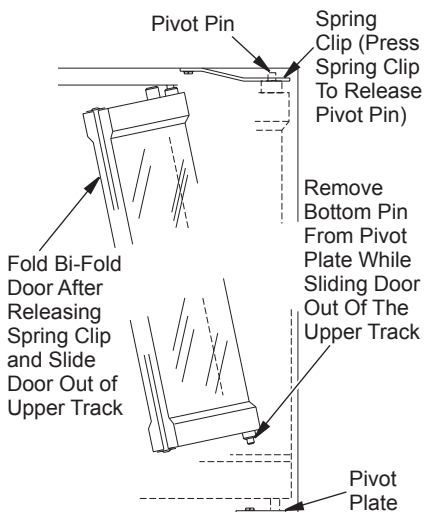

Figure 1 - Removing Glass Doors
1. Remove both glass door panels (when equipped) by following the instructions shown in Figure 1.
16. Replace the glass doors (if equipped) by following the instructions shown in Figure 1, page 1, in reverse order.